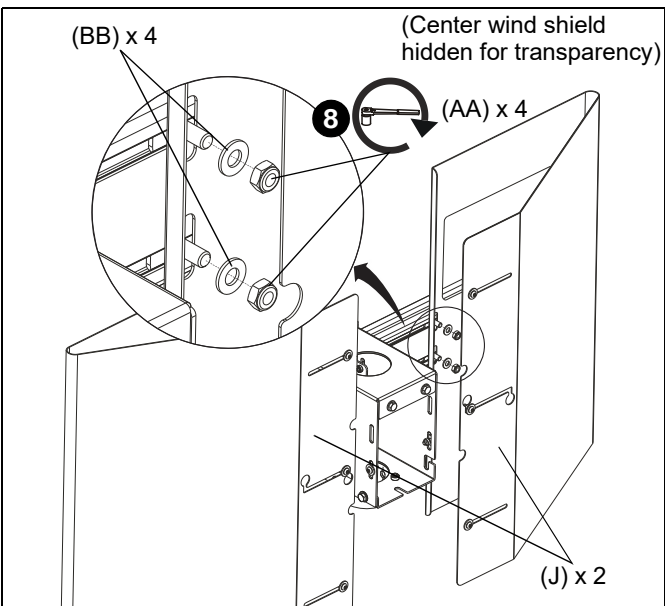

Figure 9
- Use four 5/16-18 hex nuts (AA) and four 5/16 inch washers (BB) to secure four wind shield connectors (pre-installed) to side wind shields (J). (See Figure 9)